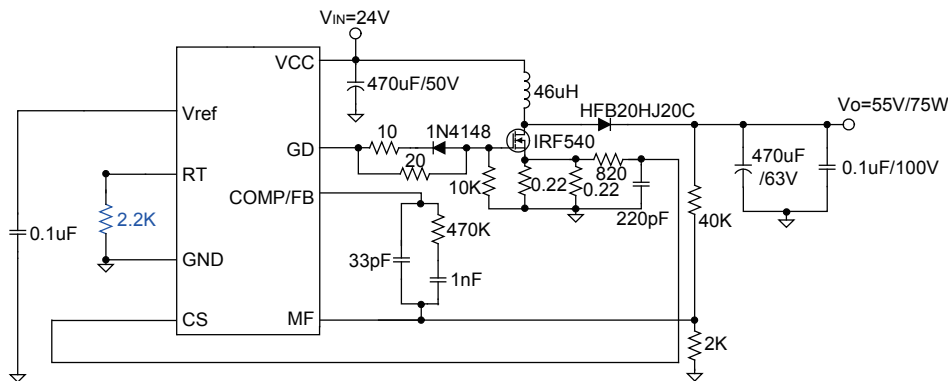

Figure 8 Constant Voltage Boost Application (DC-DC Boost)
A Constant Voltage (CV) Boost application circuit is shown in Figure 8. This circuit can be used with DC inputs of 16~24V and provides a DC output of 55V \pm 5% with an output power level of 60~70W. The output power level can be changed by choosing a suitable inductor value and power MOSFET, while the output voltage can be changed by choosing a suitable feedback resistor ratio.